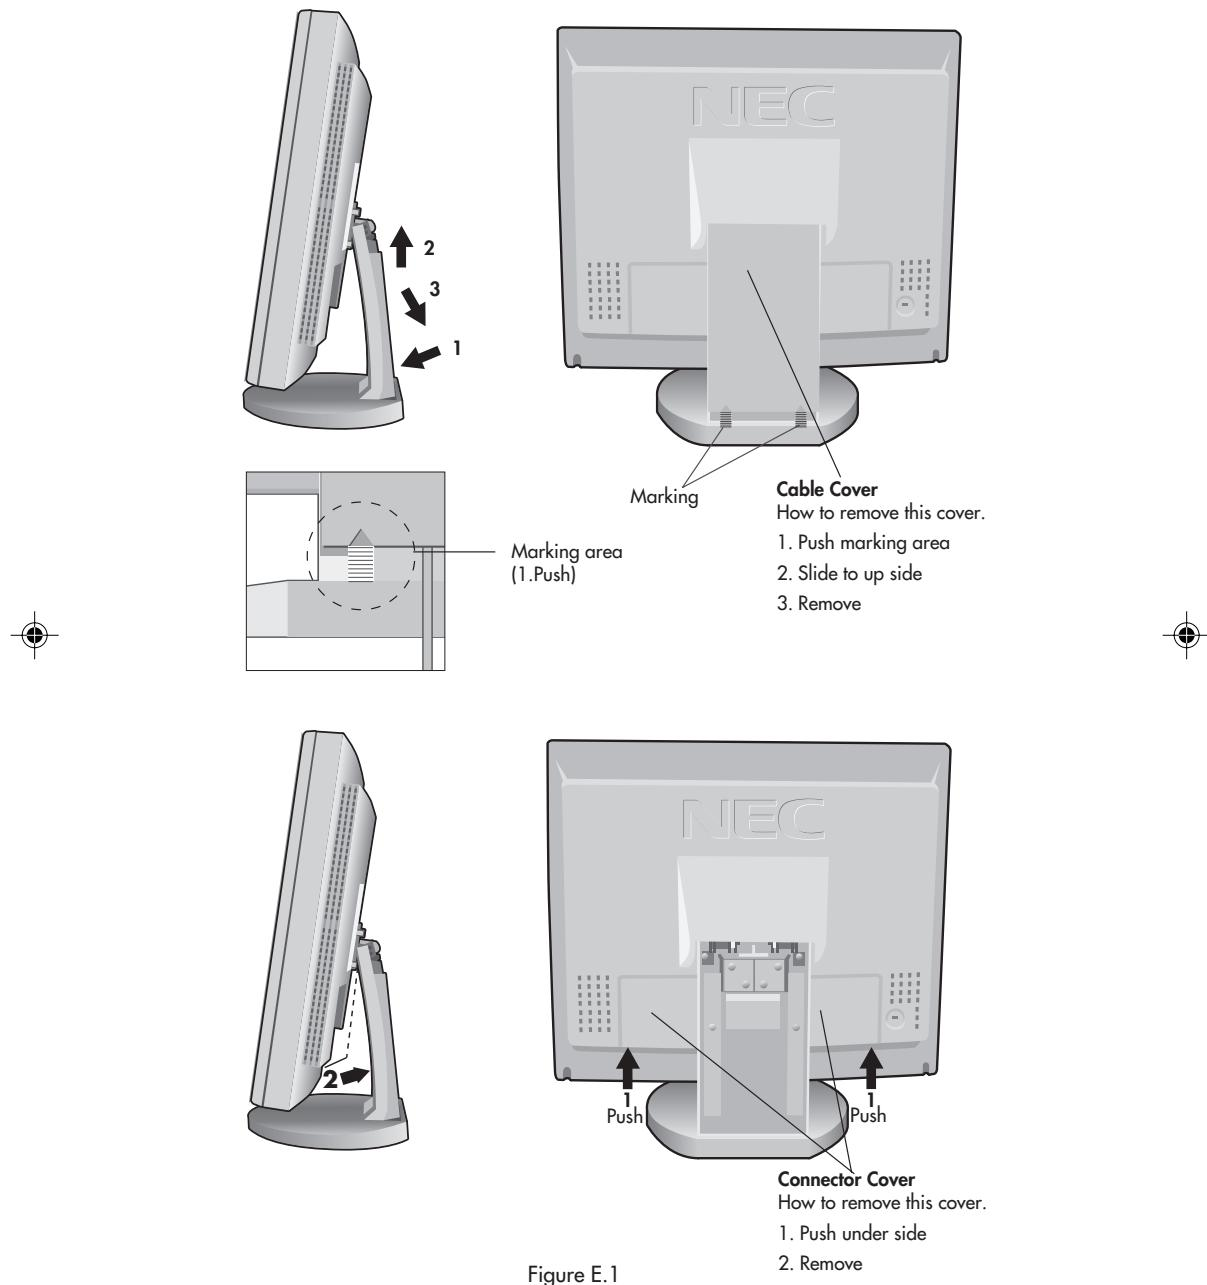

Figure E.1
4. Connect one end of the power cord to the MultiSync LCD Series monitor and the other end to the power outlet. (**Figure C.1**). Replace connector cover and cable cover (**Figure E.1**).